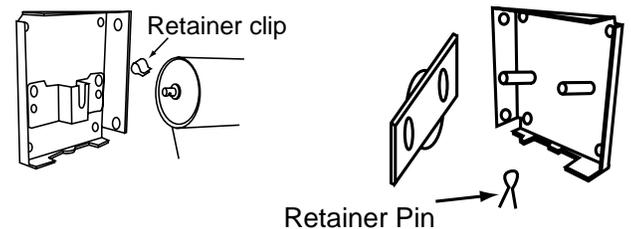

Figure 4
- ④ Remove roller assembly from headbox. (NOTE: If unit is motorized with a crank override, skip this step. Roller assembly and head box assembly must be installed as a unit—the roller assembly cannot be removed without completely disassembling the head box.) Remove the black plastic retainer clip from idler end of roller and retainer clips from motor studs. Save these clips to replace when re-assembling. Lift idler out of the bracket and slide pin (to the limit of its travel) into the roller to facilitate removal of the roller assembly. Remove the roller assembly from the head-box (see Fig. 4).